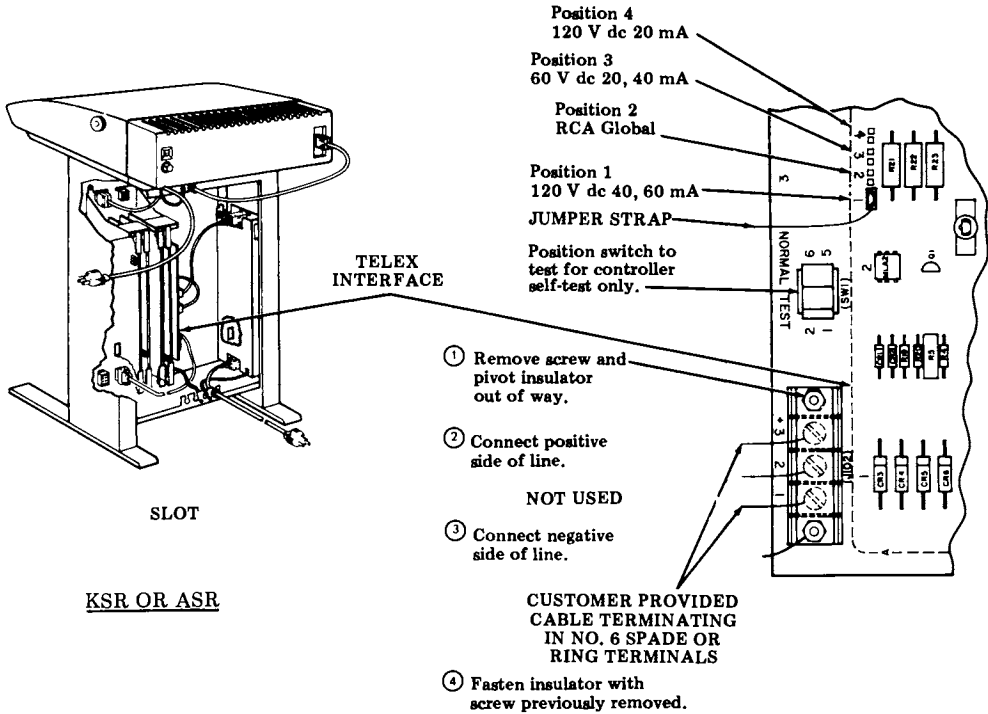

Fig. 5
- 3.12 Connect the Telex interface cable (customer provided) to the Telex interface card terminals 1 and 3 observing polarity. See Fig. 5. Route Telex interface cable through unused slot in pedestal base and replace back panel.